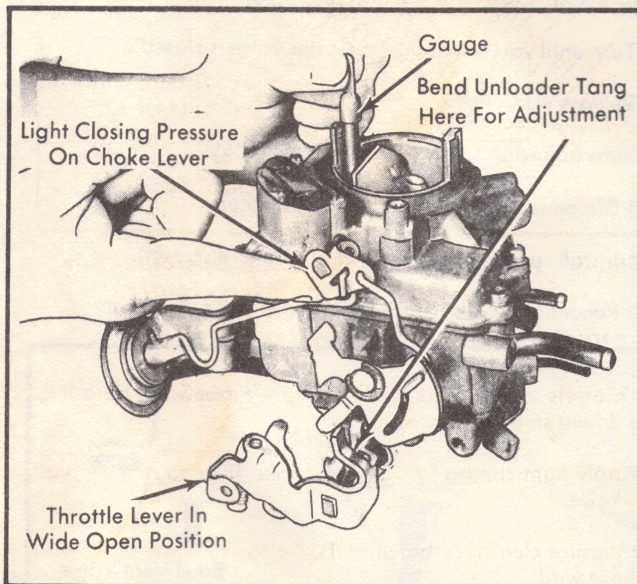

Fig. 5 Choke Unloader/Dechoke Adjustment
- 4) Adjust by bending tang on throttle lever. See Fig. 5. Bend tang UPWARD to INCREASE clearance, or DOWN to DECREASE clearance.